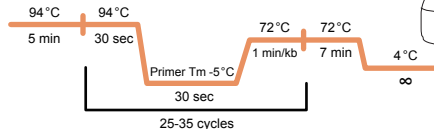

Figure 1. O'in 1 PCR cycling conditions
1. Program your instrument according to Figure 1.